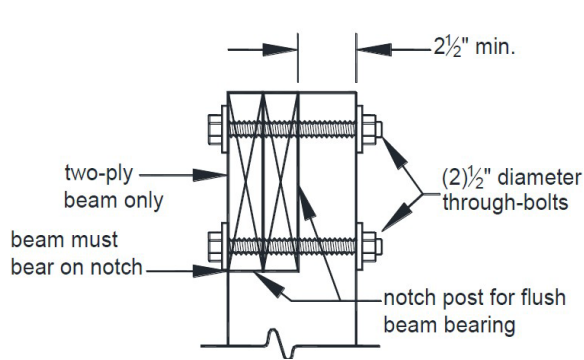
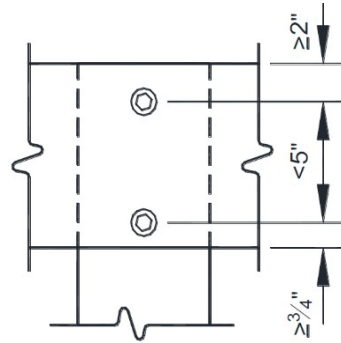
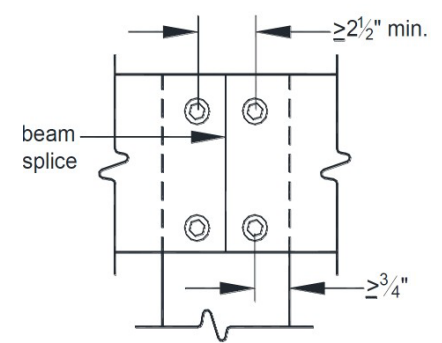

FIGURE 2 – POST TO BEAM CONNECTION
FIGURE 3 – CONNECTION DIMENSIONS
FIGURE 4 – BEAM SPLICE
- Single and two-ply beams shall be attached to 6x6 posts using the methods shown in Figure 2, Figure 3, and Figure 4.
- Beam plies are permitted to have splices located at a post as shown in Figure 4.